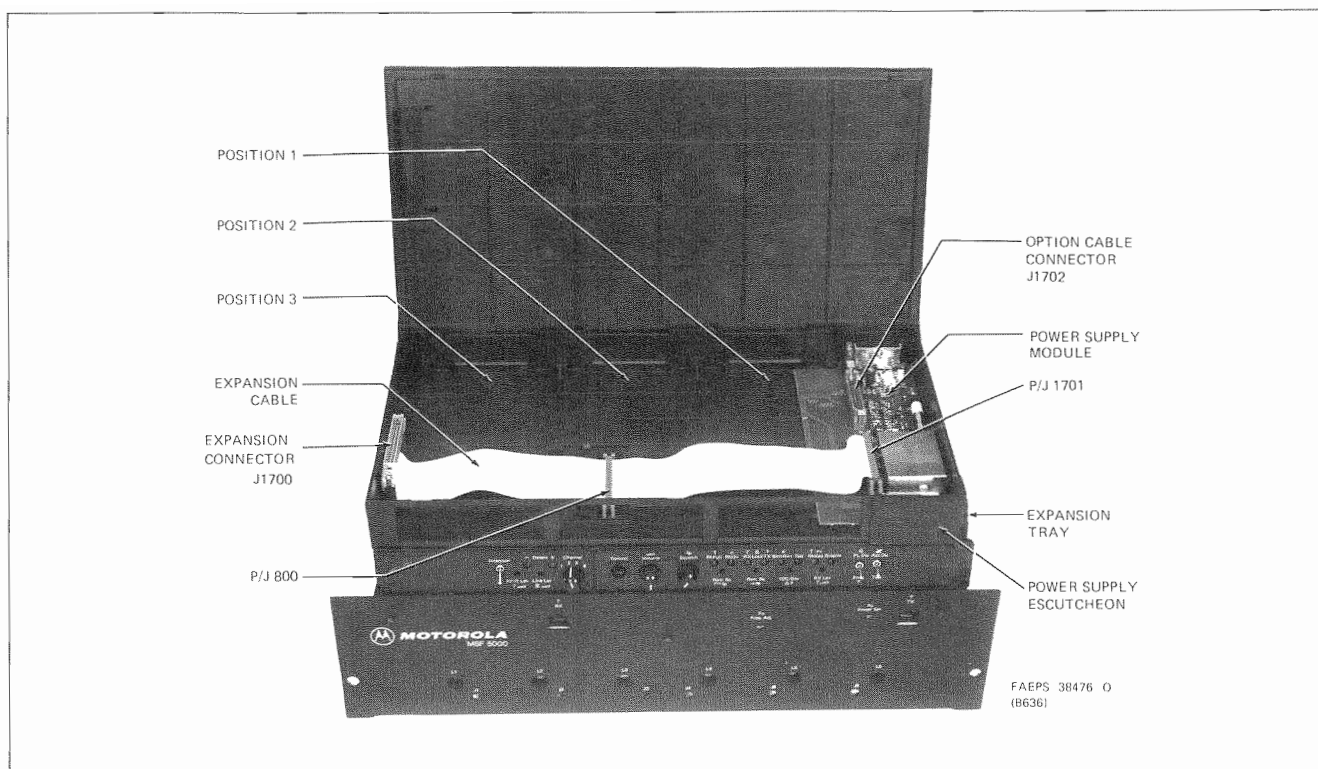

Figure 1. Expansion Tray Layout
3.1 A Wildcard Module is intended to be mounted inside of an optional Expansion Tray, which is racked on top of the station control tray. The module's position inside the Expansion Tray is determined by what other optional modules are installed. As shown in Figure 1, these positions are numbered one, two, and three, from right to left, starting next to the Power Supply Module.
Step 5. Install Expansion Tray Power Supply Module in the right-hand position in the Expansion Tray. Secure the board in the tray by installing the Power Supply escutcheon (see Figure 1).
Step 6. Lay the 40-pin expansion cable in the adapter tray and connect the center connector (P800) to the 40-pin expansion connector J800 on the station control board. Refer to Figure 1 and connect the right-hand end (P1701) to the power supply (J1701). Fasten the left end in place using the two screws provided in the field modification kit. The left end is now defined as the expansion tray connector J1700.